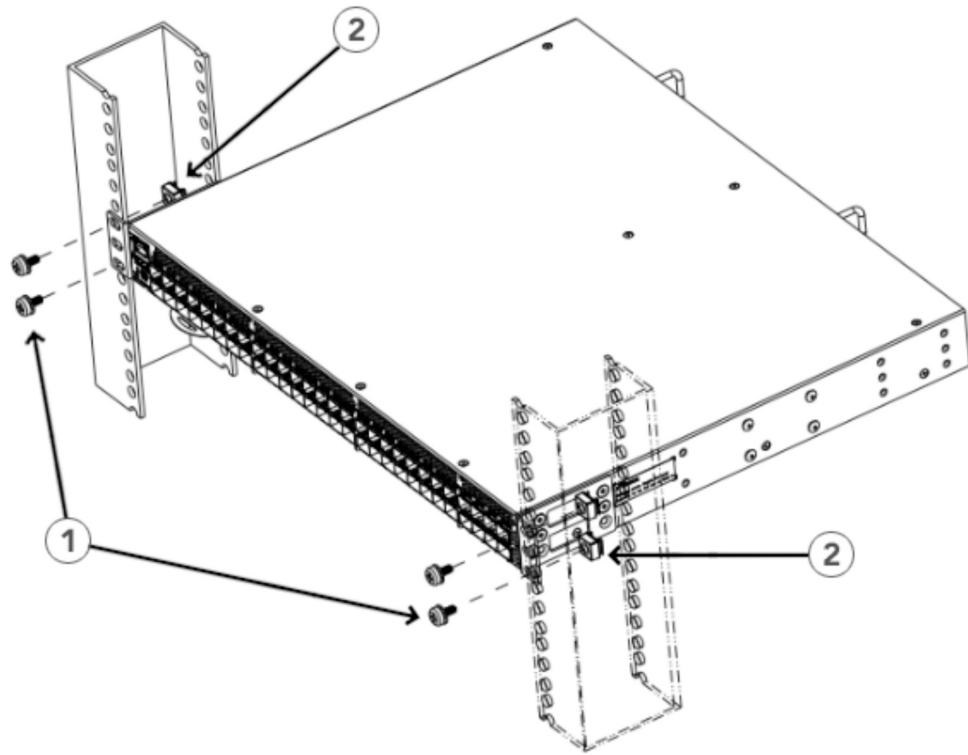

Figure 18. Attaching front brackets to a rack
1. Position the device in the rack, as shown in (Figure 18 on page 29), providing temporary support under the device until the rack kit is fully secured to the rack.